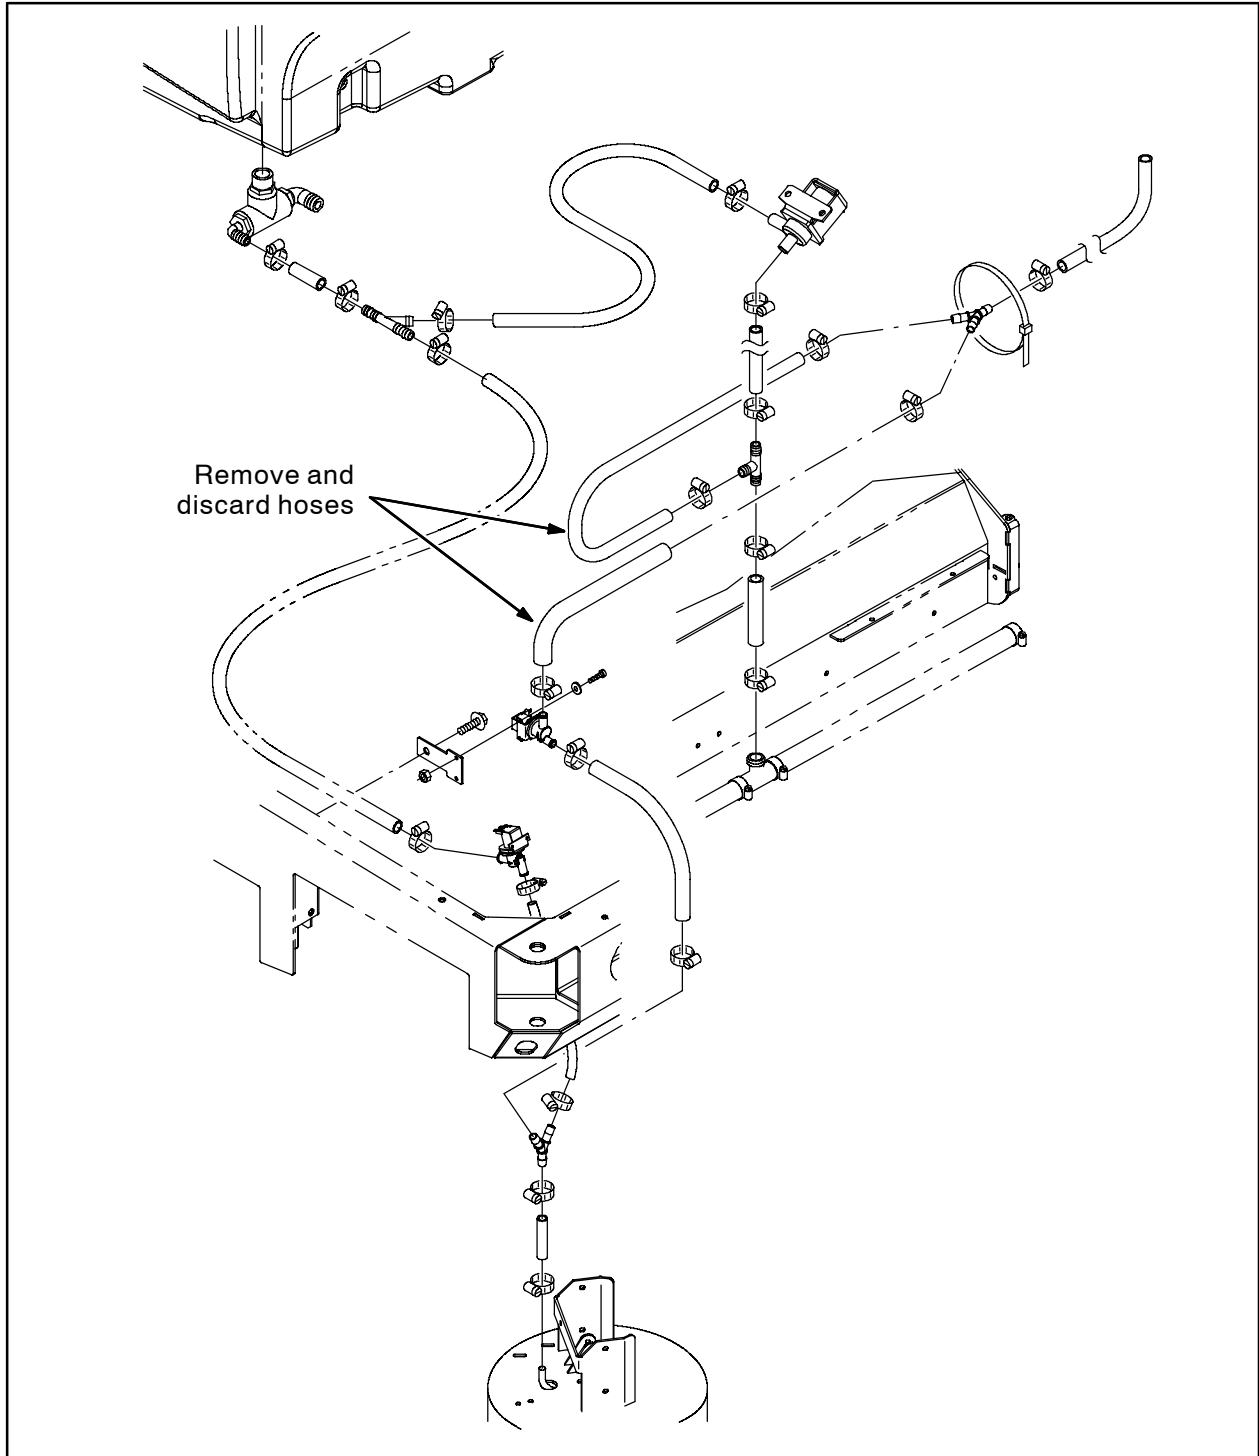

FIG. 1
1. Disconnect the hoses and wire harness from the FaST assembly and remove the entire FaST assembly from the machine. Discard the FaST assembly and removed hardware. Refer to Fig. 1.
2. Remove the hoses labeled in Fig. 1 and discard the hoses and hose clamps.